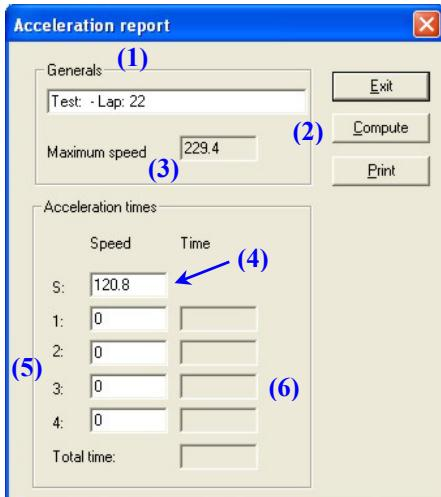

Fig. 6.9– *Acceleration report* window
3. Run the “View-Acceleration report” command from the analysis menu or the “Acceleration report” command from the menu shown pressing the right button of the mouse in the “Plot vs. time” window. The dialog window shown in Figure 6.9 is displayed.
4. In the dialog window input the speed threshold values (maximum 4), when finished press the “Compute” button (2). The program calculates the acceleration time and shows them in (6).